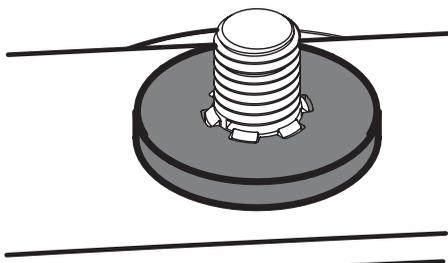

Figure 45
2. Carefully place the flat washer on the spindle shaft. Be sure that the splines at the base of the spindle shaft threads line up with the washer splines (Figure 45).